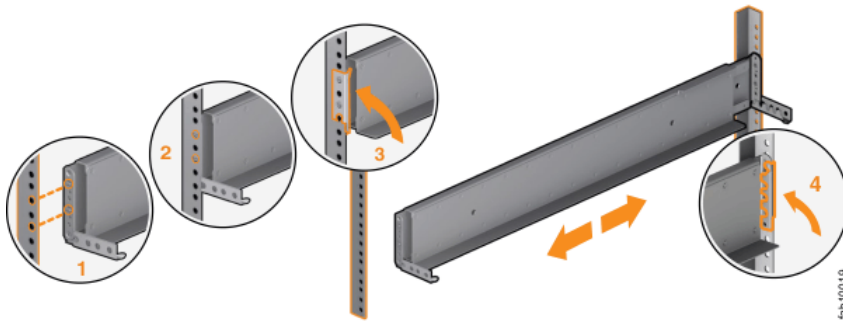

Figure 33. Closing the hinge brackets
9. Close the rear hinge bracket to secure the rail to the rack cabinet flange. (See Figure 33 on page 68.)
See Figure 33 on page 68.